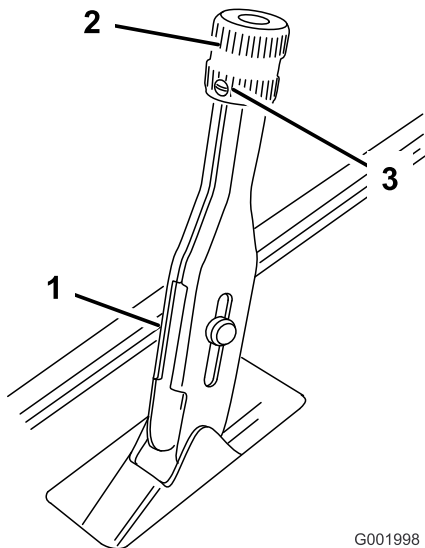

Figure 65
1. Loosen the set screw securing the knob to the parking brake lever (Figure 65).